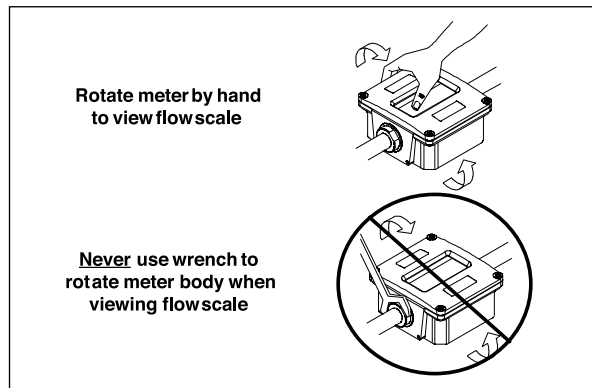

Figure 5. Rotating Meter
3. See Figure 5. After installation, rotate meter by hand to view flow scale.